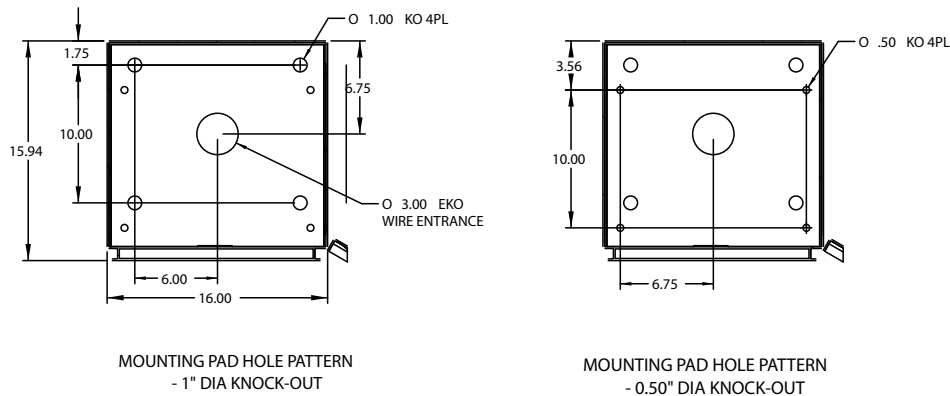

Figure 4 — Mounting Pad Hole Patterns
2. Stand-alone using 4 x 1" knock outs for base mount to concrete pad with 3/4" screw anchors (not supplied). See Figure 4 for mounting pad hole patterns.
3. Stand-alone using 4 x 1/2" knock outs for mounting to optional pedestal kit with 3/8" screws (supplied in pedestal kit). See Figure 4 for mounting pad hole patterns.